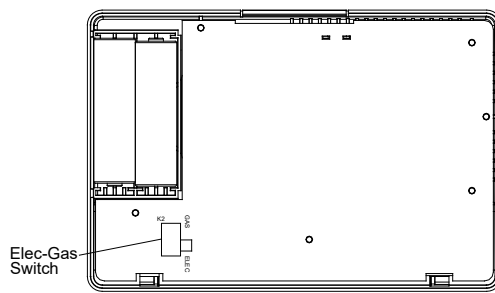

Figure 1. Electric/Gas Switch (Fan Option)
This thermostat is configured from the factory to operate in heat pump and electric heat mode. It is designed for systems that require the thermostat to energize the fan on a call for heat. If your system uses a fossil fuel (gas, oil, etc.) or forced air system that **does not** require the thermostat to control the fan, locate the ELEC/GAS switch on the back of the thermostat (see Fig. 1) and switch it to the GAS position. This will prevent the thermostat from turning on the fan immediately on a call for heat. If you are unsure if your heating/cooling system requires the thermostat to control the fan, contact a qualified HVAC professional. When the thermostat is configured for any other non-conventional mode (*reference page 2 configuration menu*), the thermostat will always power the blower fan on a call for heat. The ELEC/GAS switch must be set to match the type of auxiliary heat your system uses for proper operation in Heat mode. All wiring diagrams are for typical systems only. Refer to equipment manufacturers' instructions for specific system wiring information.
- Fasten base loosely to wall, as shown in fig. 1, using two mounting screws. Place a level against bottom of base, adjust until level, and then tighten screws. (Leveling is for appearance only and will not affect thermostat operation.) If you are using existing mounting holes, or if holes drilled are too large and do not allow you to tighten base snugly, use plastic screw anchors to secure subbase.